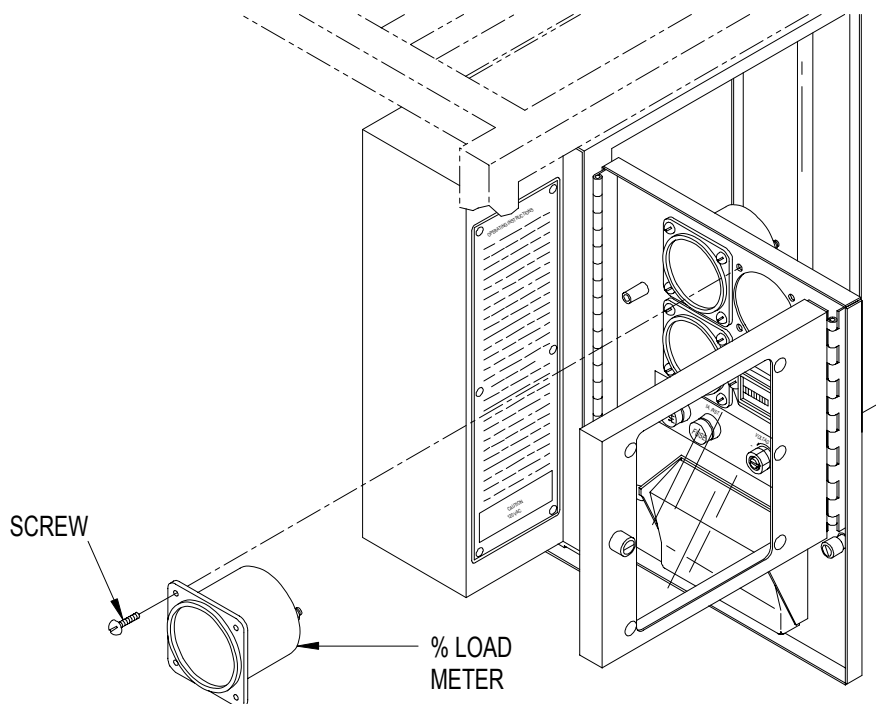

Figure 4-25. %LOAD Meter
- (1) Shut down generator set.
- (2) Release instrument panel by turning fastener, open instrument panel slowly.
- (3) Remove gauge protective cover. Then tag and disconnect %LOAD meter (Figure 4-25) electrical leads.
- (4) Release instrument cover by turning fastener, open instrument cover.
- (5) Remove screws.
- (6) Remove %LOAD meter from instrument panel.
- (1) Insert %LOAD meter (Figure 4-25) into instrument panel.
- (2) Apply locking compound (Item 6, Appendix E) to screws.
- (3) Install screws.
- (4) Connect electrical leads and remove tags. Then install gauge protective cover.
- (5) Close and secure instrument panel and instrument cover.